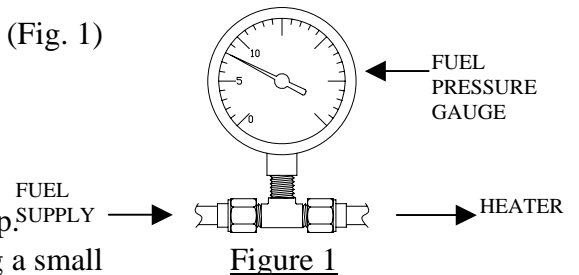

Figure 1
3. Install the fuel pressure gauge (0-15). Tee into as shown. (Fig. 1)